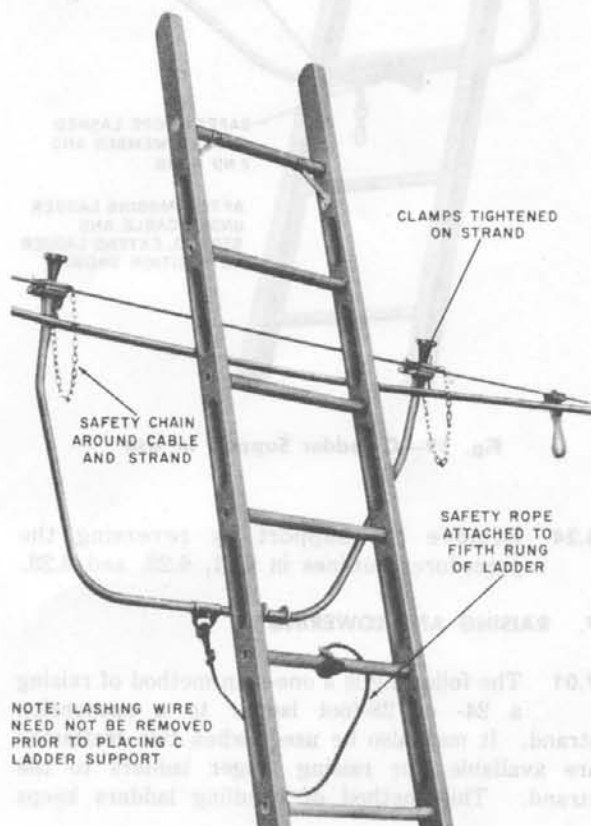

Fig. 18—C Ladder Support in Position on Strand
6.21 To use the *C Ladder Support*, place the ladder against the strand and attach the support to the strand on the opposite side from the ladder. Place the safety chains around the strand or cable and strand. After the clamps are tightened the support will be in the position shown in Fig. 18. Attach the rope to the fifth rung from the top of the ladder. This will prevent the support from passing over the top of the ladder when the ladder is moved as described in 6.22.